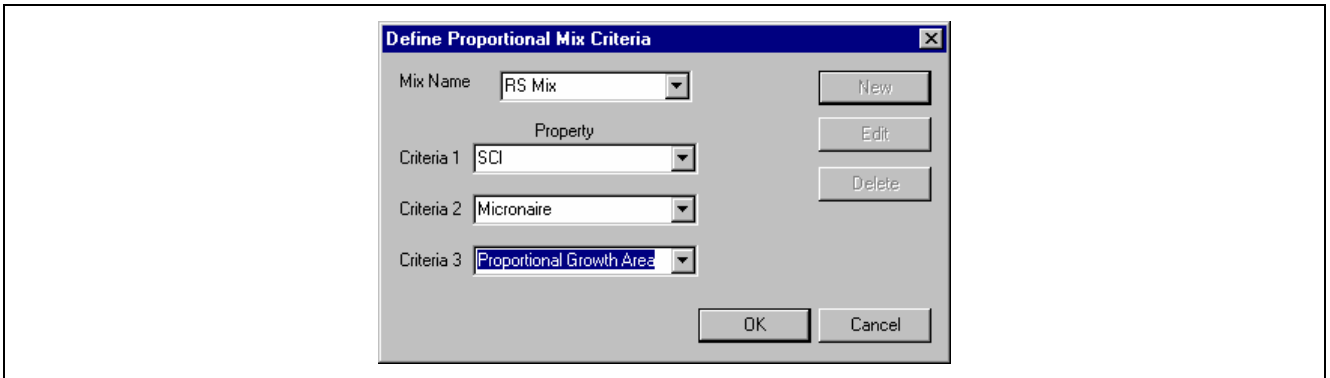

Fig. 6-69 Define Proportional Mix Criteria, Screen III
22.2 Use the pull-down menu at Property to select SCI, Micronaire and Proportional Growth Area for Criteria 1, 2 and 3 (Fig. 6-69).